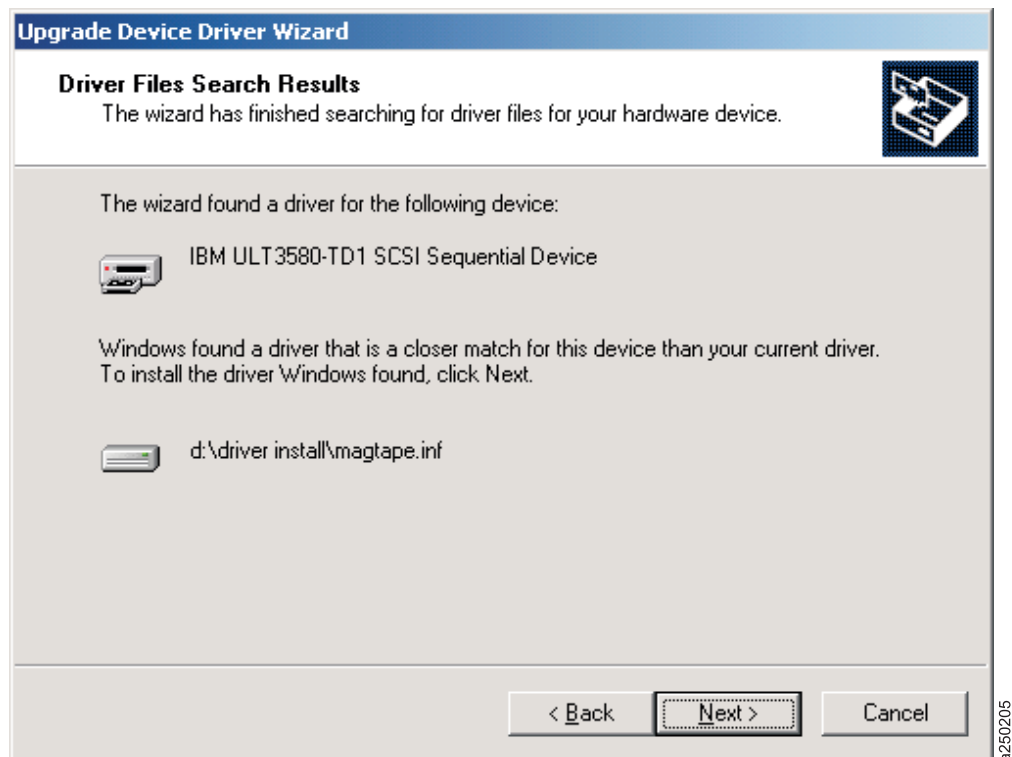

Figure 33. Driver Files Search Results
15. After a brief moment of searching, the operating system should present the **Driver Files Search Results** screen. Figure 33 contains an example of a screen that will be presented when it finds an IBM Ultrium Generation 1 drive. Depending on the device you are installing, this and subsequent screens may have minor differences. Click **Next >**.